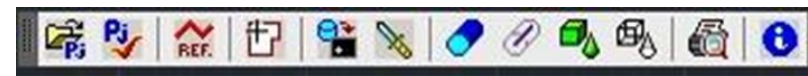

Fig. 24 IDS GCAD toolbar
- b. if **AutoCAD** is already open, the User may type **IdsGcad_xyz** in the command window, to recall the **IdsGcad_xyz** toolbar (Fig. 24).